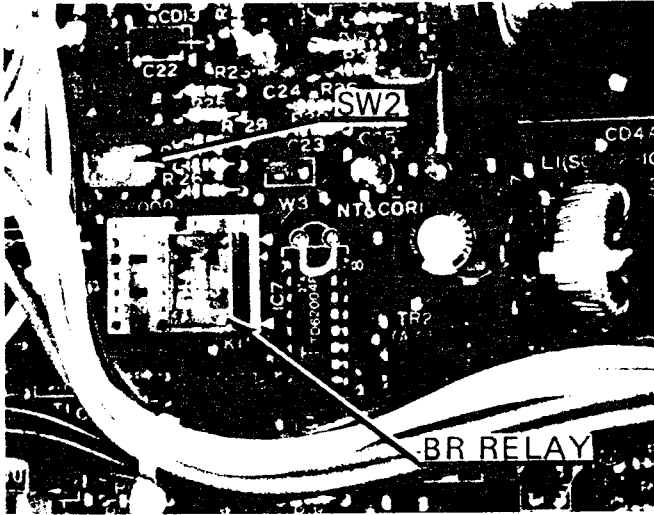

FIGURE 10
05.12 To equip either of the two relay service functions; obtain the optional relay from your Toshiba supplier and install it in the proper location on the MPRU, per Figure 10.
05.13 External page impedance is selected with the SW2 switch located adjacent to the relay sockets on the MPRU (Figure 10). Decide if 8- or 600-ohm impedance is required, then make the selection by positioning the SW2 switch to "8" or "600", whichever is required. Figure 10 shows the switch in the 8-ohm position.